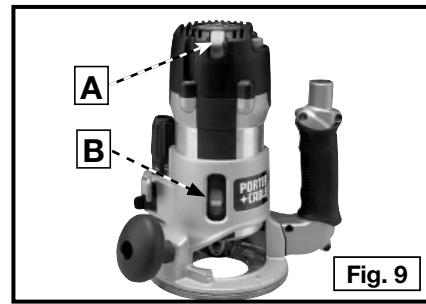

Fig. 9
CAUTION: Before starting the tool, clear the work area of all foreign objects. Keep a firm grip on the tool to resist starting torque. Two switches (A and B) Fig. 9 turn this tool "ON" and "OFF". The upper switch (A) will automatically turn the tool "OFF" if the tool is placed upside down on a surface.